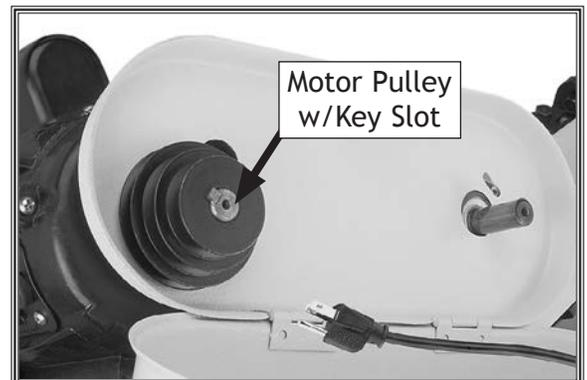

Figure 12. Motor pulley installed.
13. Slide the large-diameter motor pulley onto the motor shaft (see **Figure 12**).